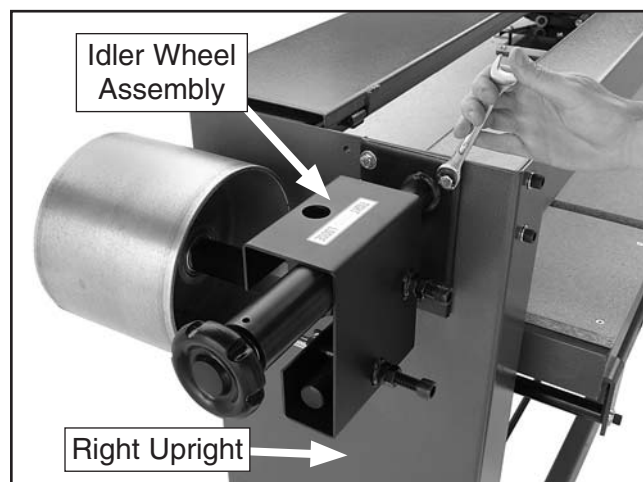

Figure 20. Idler wheel assembly.
12. Connect the idler wheel assembly to the right upright with (4) $\frac{5}{16}$ "-18 x 1" flange bolts, as shown in **Figure 20**.